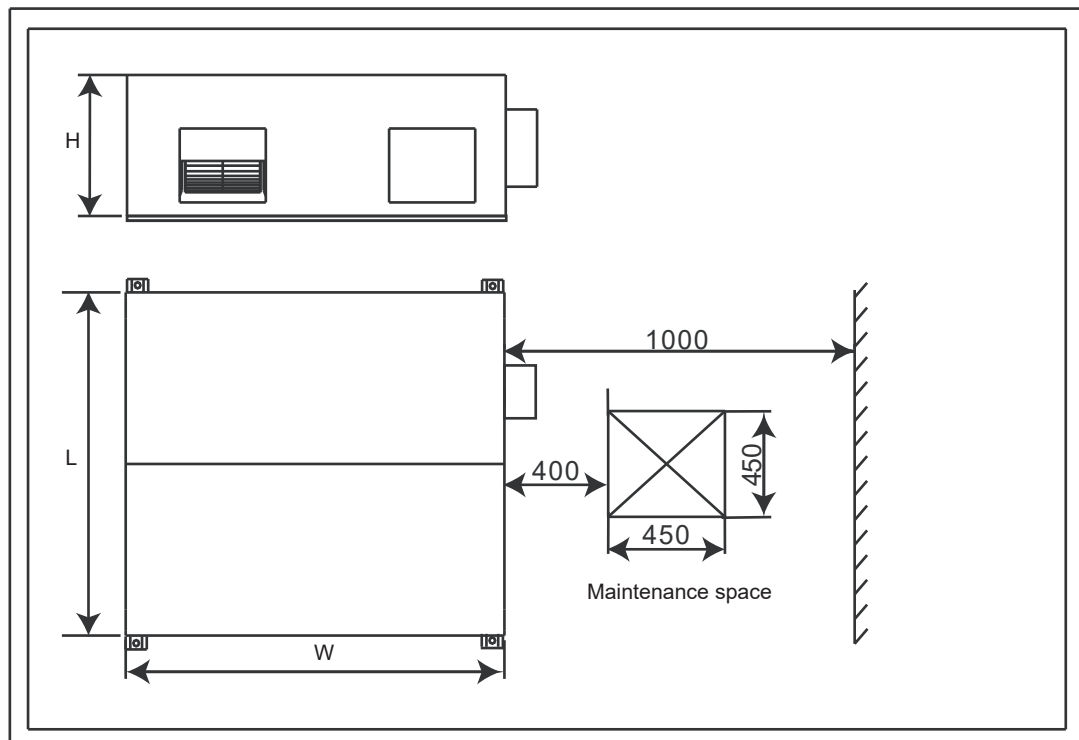

Fig. 3-3 Detail structure specification and maintenance space
- The installation dimension and maintenance space. (See the following attached picture Fig.3-3)